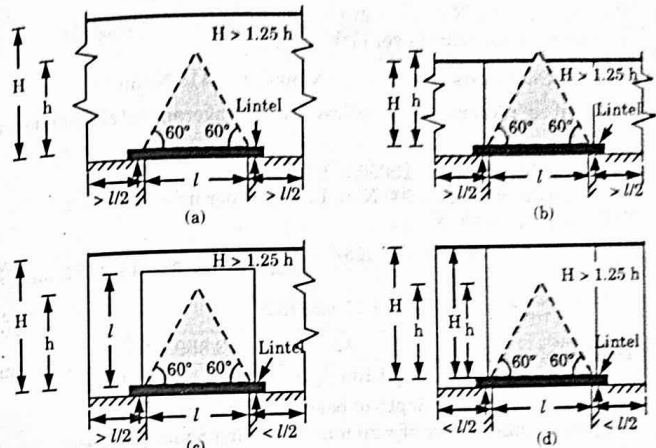

Fig. 3.9.1. Examples of lintel loading.
- Different cases of loads on a lintel are shown in Fig. 3.9.1. To get the perfect arch action the following conditions should be satisfied :
- Fig. 3.9.1(a) shows a usual case where the height of masonry ( $H$ ) above lintel is greater than  $1.25h$  and the length on either side of a lintel is greater than  $l/2$ . The perfect arch action can be observed in this case and a triangular loading can be considered above the lintel.
- In Fig. 3.9.1(c),  $H > 1.25h$  but the length of wall on one of the side of the opening is less than  $l/2$ . The perfect arch action cannot be observed. In such a case, a rectangular load of masonry of height  $l$  should be considered.
6. In Fig. 3.9.1(d),  $H > 1.25 h$  but the length of wall on either side of the opening is less than  $l/2$ . In such a case, a rectangular load of masonry of full height of wall (i.e.,  $H$ ) should be considered.